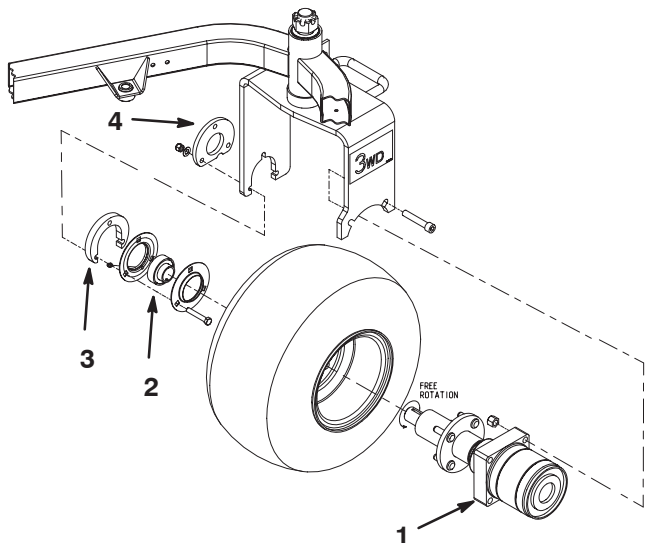

Figure 4
3. Insert flangettes and bearing onto end of motor shaft as shown in Figure 4.
4. Mount the (2) straight fittings to the side of the motor assembly (Fig. 4).
5. Position the motor hub, flangettes with bearing, adapter plate and tire assembly into castor fork. Ensure that ports on motor face rearward (Fig. 4).
6. Loosely secure motor to the inside of castor fork with (2) socket-head screws and (2) nuts (Fig. 4).
8. Loosely assemble flangettes with bearing to inside of castor fork with (3) new 3/8 x 2 in. screws, adapter plate, spacer mount, (3) 13/32 x 13/16 hardened washers and (3) 3/8 in. locknuts.
Note: The grease fitting must be in the downward position on the flangette (Fig. 4)